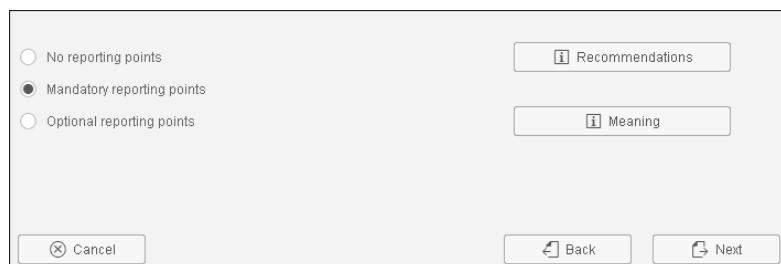

Figure 5.2 Reporting Points
A *reporting point* (RP) enables the system to record consumption or other details, such as identifying the work in process (WIP) and better stock visibility in inventory management (IM), which are specific to actual information in time and equally helpful in reporting. As shown in Figure 5.2, you can select whether you want the system to include no RPs or make the RP mandatory or optional. The RP serves the same purpose as a milestone does in routing for discrete manufacturing. If you select the **Mandatory reporting points** option, then you have to define an RP at the time of assembly or component backflush.